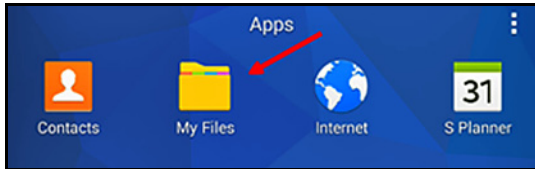

Figure 55: The “My Files” Folder
1. Open the “*My Files*” folder on the tablet screen and select the APP from the SD folder (see *Figure 55* below).